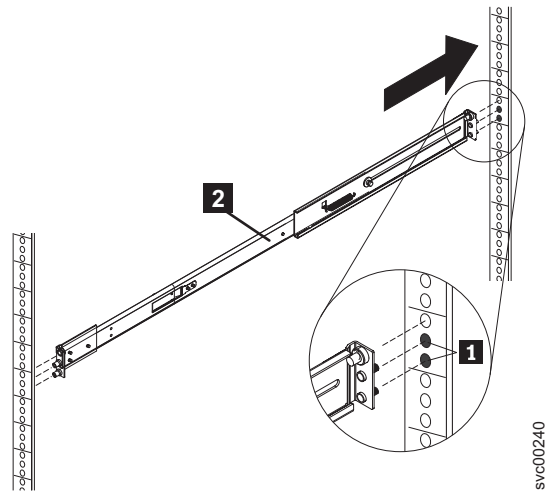

Figure 117. Inserting the right slide rail into the rear rack mounting flange
3. Insert the right slide rail **2** into the rear rack mounting flange, as shown in Figure 117 on page 451, with the rail pins **1** protruding through the flange.